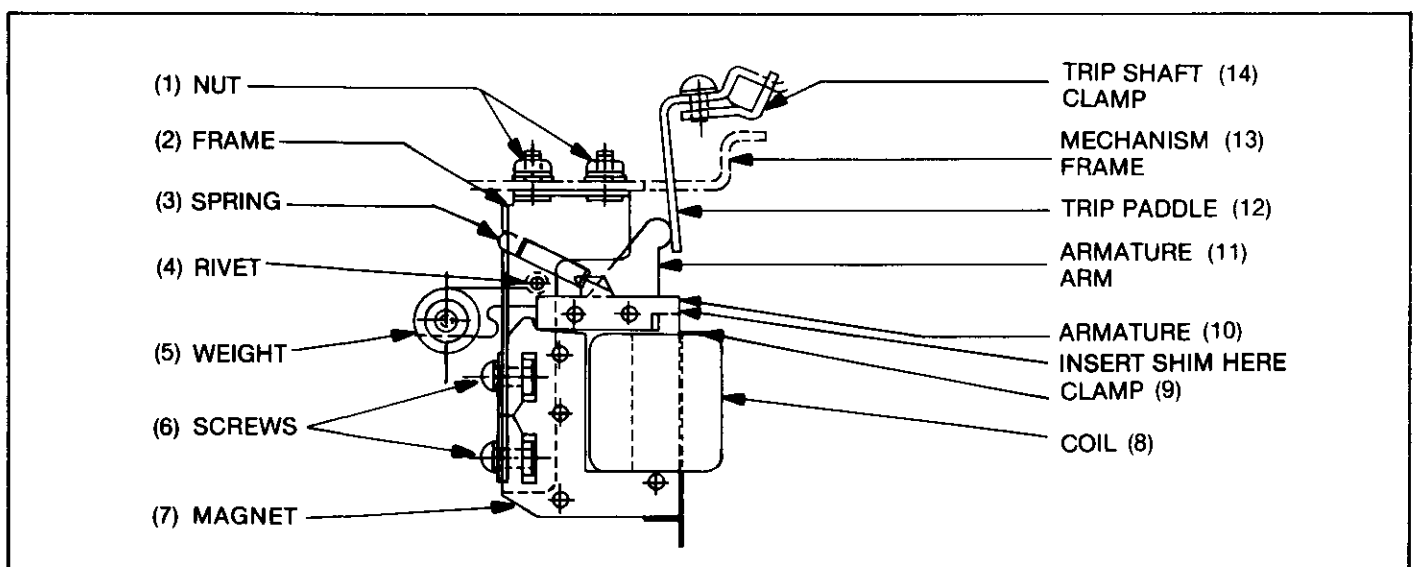

Fig. 11. Shunt trip device
Shunt Trip Device (Fig. 11)
The shunt trip device typically is mounted underneath the horizontal cross frame member, just to the left of the front escutcheon. It is composed of a magnet (7), Fig. 11, coil (8) and armature (10). The armature has an extended arm or striker (11) which bears against the trip paddle (12) on the trip shaft when the coil (8) is energized. This displaces the trip latch in the
The entire shunt trip device may be dismantled by disconnecting the coil leads and removing nuts (1), Fig. 11.
The only adjustment required on the shunt trip device is that which ensures positively that the breaker will trip when the device is activated. To be sure of this, armature arm (11), Fig. 11, must travel from 1/32 to 1/16 inch beyond the point at which the breaker trips. A good method of checking this is to insert a 1/32-inch shim between the magnet (7) and armature (10) and with the breaker closed, push down on the arm (11), closing the armature against the magnet. If the breaker trips, there is sufficient over-travel. If adjustment is necessary, trip paddle (12), Fig. 11, may be formed towards or away from the armature arm (11). Assure a minimum clearance of 1/16 inch between the trip paddle and breaker frame with the mechanism in the RESET position.